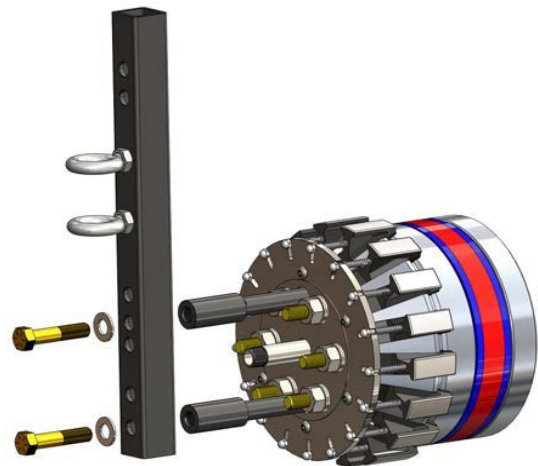

Figure 22: Aligning and fastening Telescoping Lifting Attachment on to Lifting Stand
12.2 Align the holes on the **Telescoping Lifting Attachment (25)** with the internally threaded holes on the **Lifting Standoffs (26)**. Secure the **Telescoping Lifting Attachment (25)** to the **Lifting Standoffs (26)** using the provided **Lifting Device Bolts (27)** and **Washers (28)**. Refer to Figure 22 for guidance.